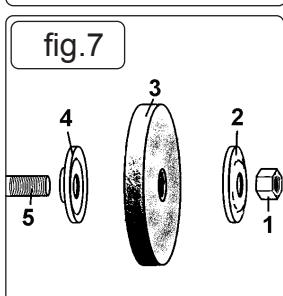

fig.7
- 6.2.5. Remove grinding stone washer (2) (fig 7), stone (3), washer (4) from main spindle (5).